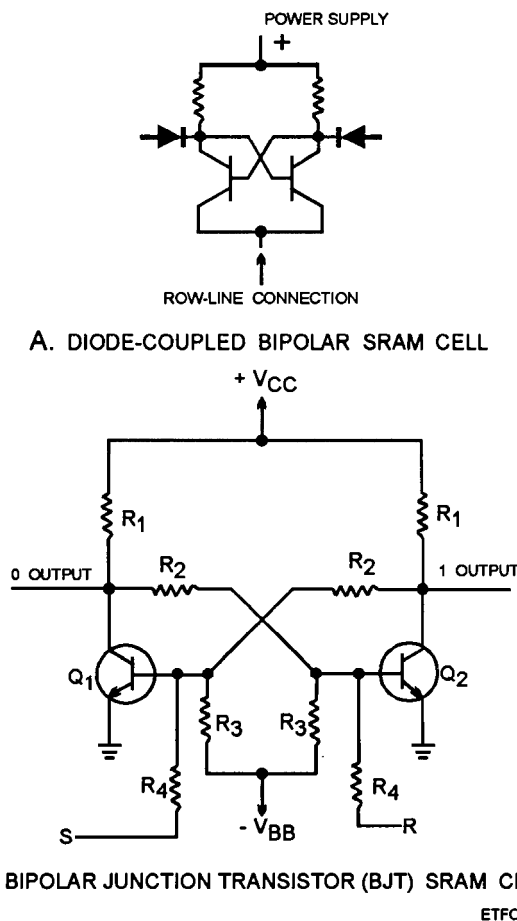
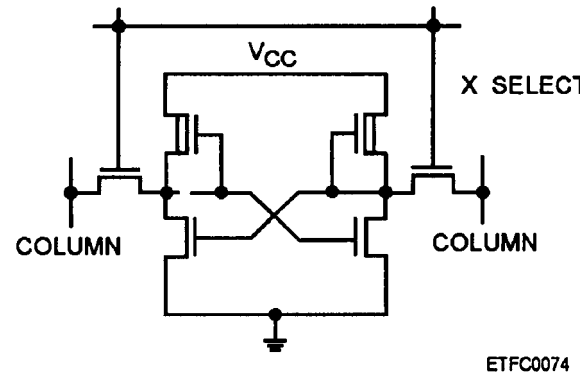
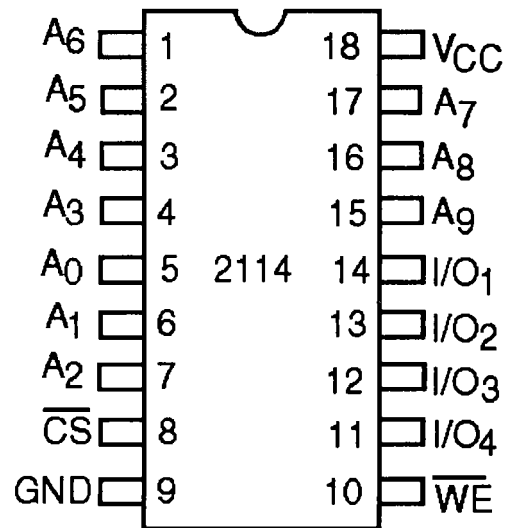

Figure 6-28.—Examples of SRAMs: A. Diode-coupled bipolar SRAM cell; B. Bipolar junction transistor (BJT) SRAM cell.
Figure 6-29.—SRAM MOS cell.
Figure 6-30.—SRAM IC chip with connections.
**D-type** and **R-S type** flip-flops are commonly used for SRAMs. The flip-flops can be made of either bipolar or MOS transistors. MOS yields a higher density but lower access speed. Bipolar RAMs have a higher access speed but take up more space. Figure 6-28, frames A and B, and figure 6-29 illustrate schematic diagrams of individual bipolar and MOS RAM cells. Figure 6-28, frame A, is a diode-coupled
bipolar static RAM cell; figure 6-28, frame B, is bipolar junction transistor (BJT) static RAM cell; and figure 6-29 is a static RAM MOS cell. As stated, the RAM chip is mounted in a logic array on a pcb. Figure 6-30 is an illustration of an IC chip, with pin connections used in a static bipolar or MOS RAM.